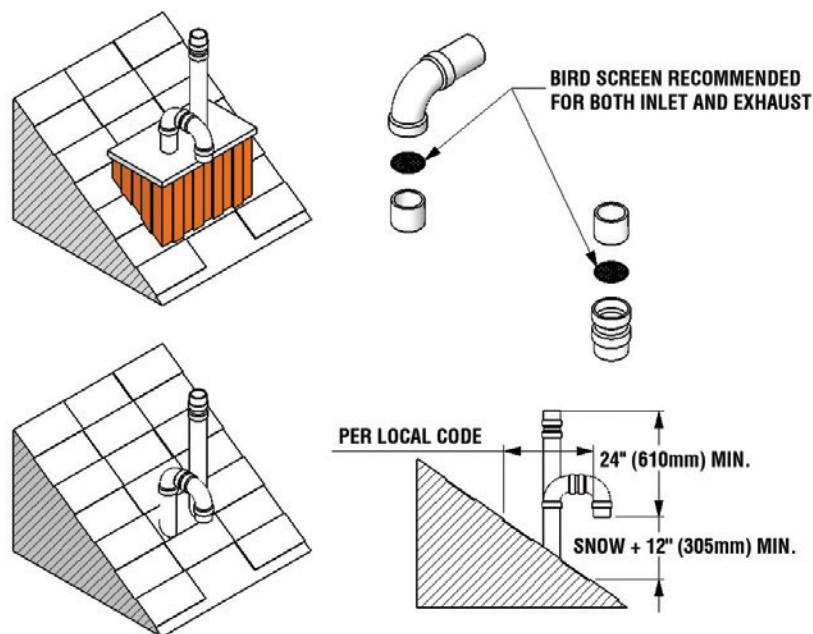

Figure 5: Rooftop vent terminal configurations
- The intake air pipe is not typically drained, so it must be terminated with a down-turned elbow (see Figure 5). The intake pipe does not need to penetrate the roof at the same elevation as the exhaust (as shown); lower down the roof is OK.
It is extremely important to maintain at least the minimum separation of exhaust vent termination from boiler intake air as illustrated in figures 5, 8 and 13. Failure to do so can result in a dangerous situation where exhaust gasses are re-ingested with combustion air. Damage to the boiler can result from a failure to maintain these separations. Improper installation will void the warranty.